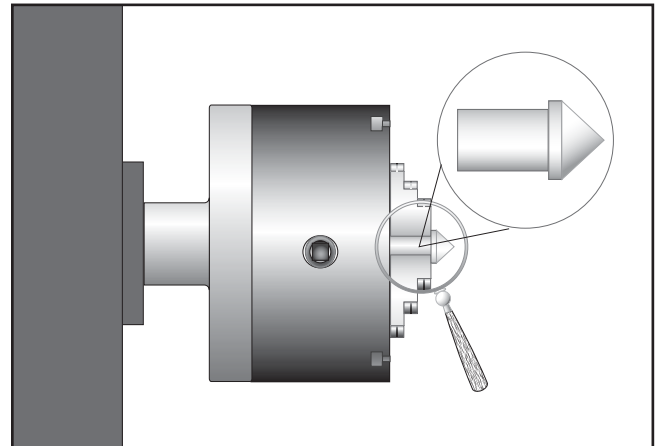

Figure 24. Fabricated dead center.
3. Make a dead center by turning a shoulder on a similar piece of round bar stock, then flip the piece over in the chuck and turn a 60° point (see **Figure 24**).